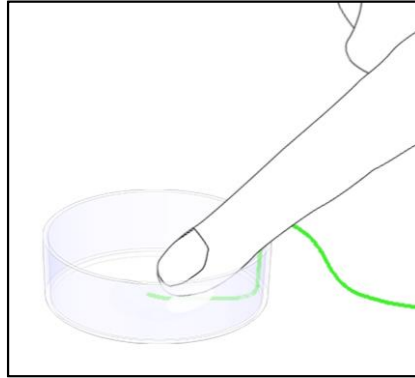

Figure 18. T Sensor secured inside a Petri Dish
1. Secure the independent T Sensor to the center of the heating device for surface temperature calibration, or in the case of in-sample liquid calibration to the bottom of the sample holder (Petri dish, Chambered Glass Slide, etc.) with commercial adhesive tape as shown in Figure 18. Do not cover the tip of the T-Sensor.